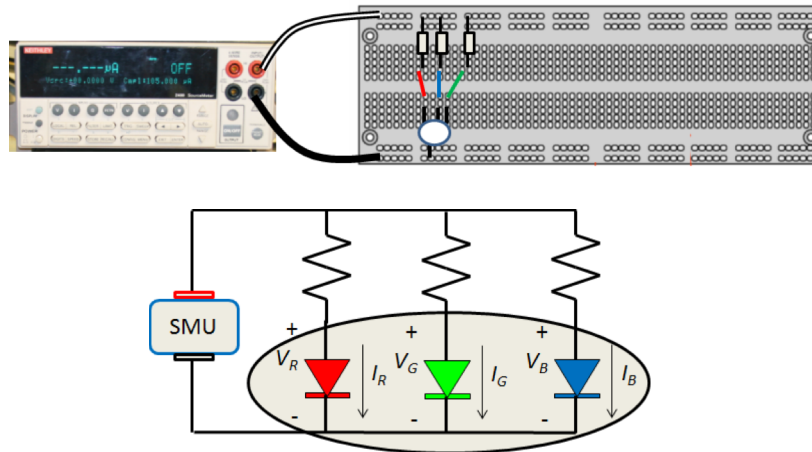

Fig. 12: Physical arrangement and circuit for color-balanced LED.
- (b) **Design a resistor network to balance the currents:** Based on your measurements from part 2, and applying the same approach as in Prelab problem 3, choose 3 resistors, such that when they are attached as shown in Figure 12, and supplied with 4 V, each LED receives the following currents: Red: 10 mA, Green: 2.5 mA, Blue: 4 mA. Obtain these resistors, and build the circuit. Note that you will not be able to find the precise resistor values you calculate: choose the closest value you can find. Confirm the values of R_R , R_G and R_B with the DMM, and note them down for your report.